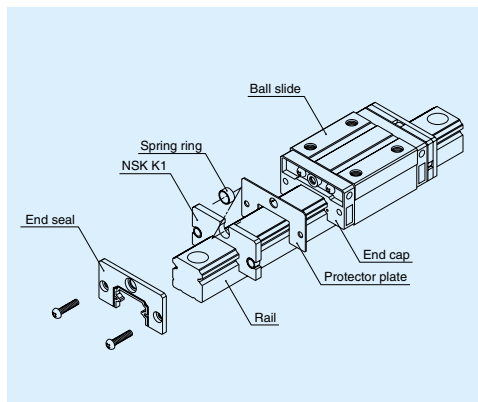

Fig. II-5-2
(1) What is K1 Lubrication Unit
- Along with the protection plate, an NSK K1 Lubrication Unit is installed between the end cap and the end seal at both ends of the linear guide (Fig. II-5-2). K1 Lubrication Unit is already equipped at the time of delivery.